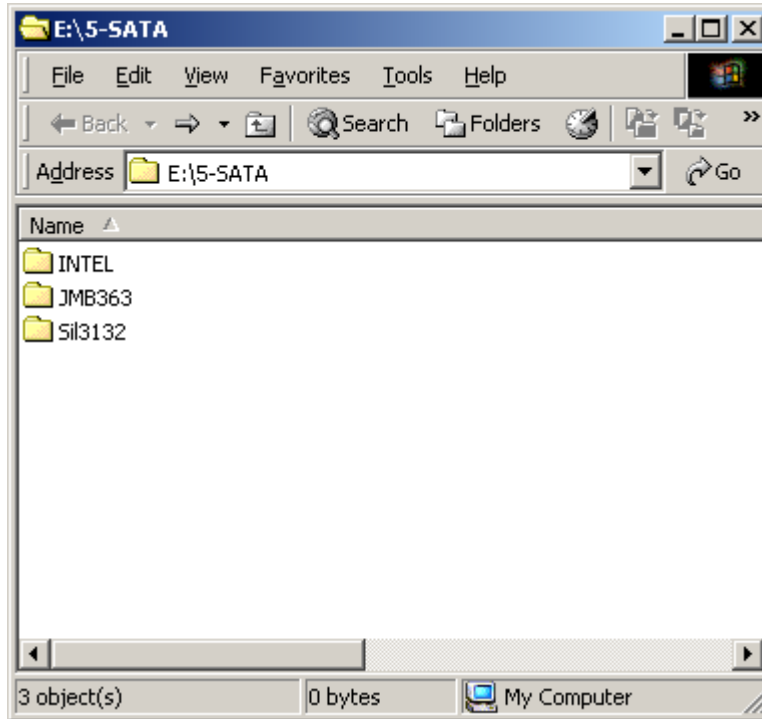

Figure 7-52: SATA RAID Driver Installation Program
Step 2: A new window opens (**Figure 7-52**).